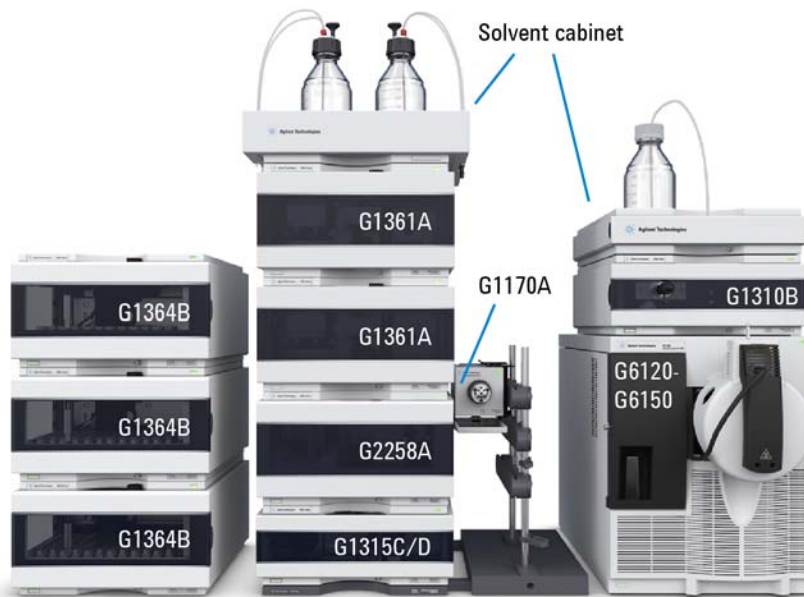

Figure 4 Stack configuration for Agilent 1260 Infinity Purification Solution with UV and MS detection
- G1364B Fraction Collector (FC) for sample collection, in the following configurations:
- Up to three FCs as cluster with G1170A Valve Drive/G4731A Valve Kit (option shown in Figure 4 on page 18)